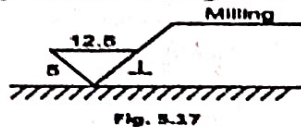

Fig. 5.17
**Problem 5.8 :** State the meaning of the symbol shown in Fig. 5.17.